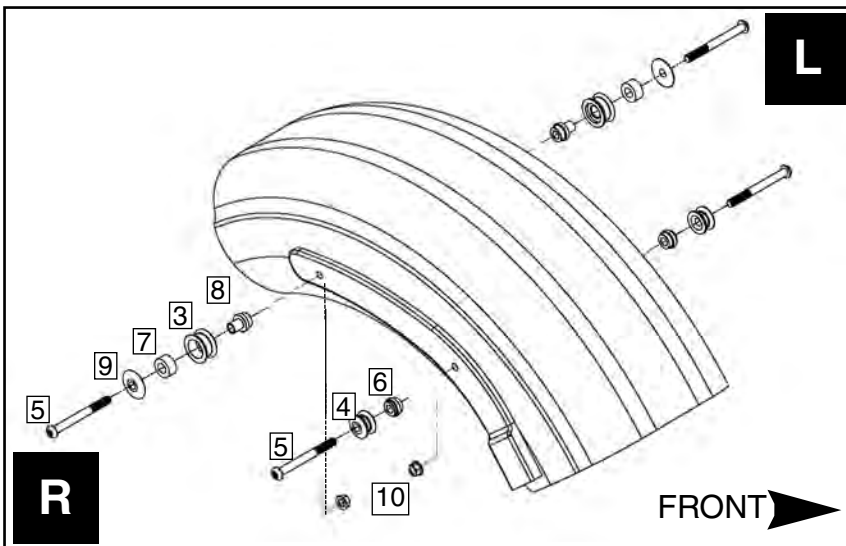

Figure 1
2. Assemble front and rear spools into the right fender. Do not fully tighten. This will allow some movement which aids in the side plate installation. **(5 mm Hex Wrench and 13mm Box Wrench) Figures 1 and 2**